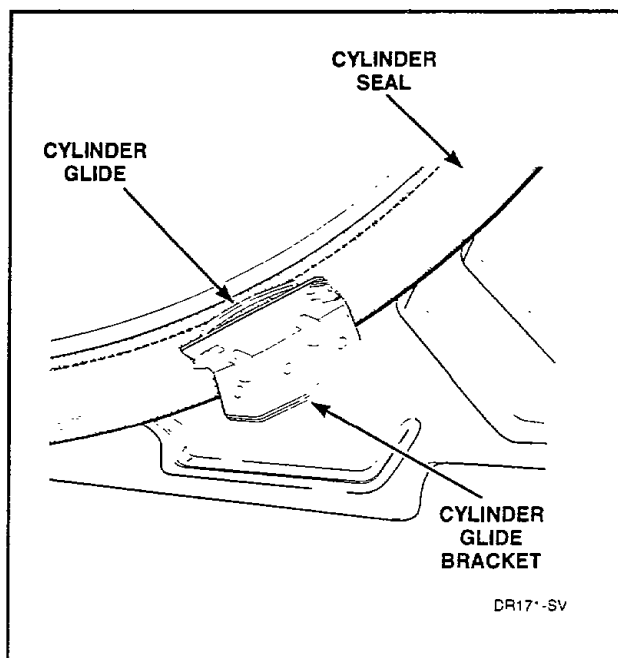

Figure 38
**NOTE:** When reassembling the front bulkhead to the cabinet, hold glides in position with finger tips on the edges of glides. Once bulkhead is in place, inspect the glide position with a mirror to insure the glides are aligned with the cylinder, making sure the tabs are visible, *Figure 38*.
g. **Cylinder glides and pads** (*Figure 38*)
(1) Unsnap glides from each glide bracket and remove glides and pads.
h. **Front cylinder seal** (*Figure 38*)
**NOTE:** When reassembling the front bulkhead to the cabinet, hold glides in position with finger tips on the edges of glides. Once bulkhead is in place, inspect the glide position with a mirror to ensure the glides are aligned with the cylinder, making sure the tabs are visible, *Figure 38*.